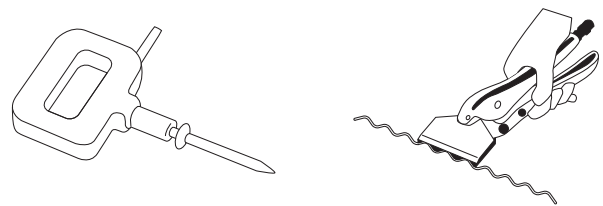

Figure 505.4
5. After welding, the best way to break off the pulling rod is by twisting. Wiggling from side by side may cause hole in the panel. Pins can be snipped off twisted off. Wiggle wire is removed by rocking up and down. We recommend using a Vise-Grip® model 8R. Please see Figure 505.4.